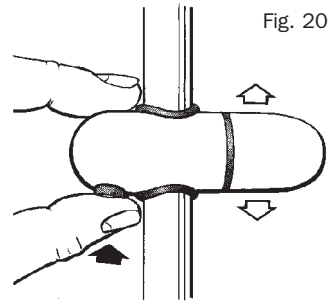
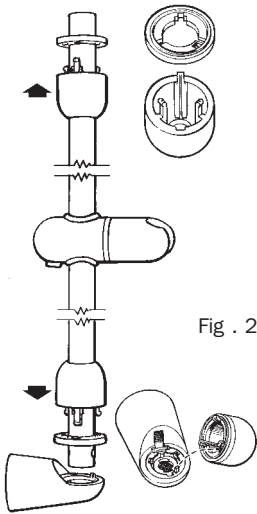

Fig. 20
Fig. 21
7. Depress the lock button on the shower handset slider, Fig. 20, and locate it in the centre of the riser rail. Slide on the upper and lower location collars and the contrast colour discs, noting the correct orientation shown in the insert views of Fig. 21.